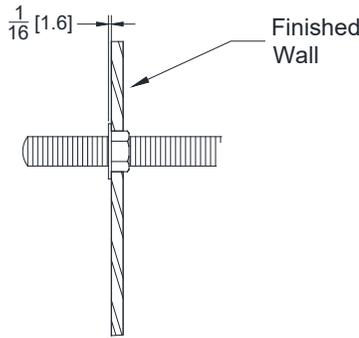

Figure 12
14. Thread a backing nut and bearing washer on to each 5/8 [16] rod. Adjust hardware so that the front surface of each flat washer is 1/16 [2] in front of the finished wall (see Figure 12). All bearing washers must be on the same plane to support the fixture and prevent cracking.